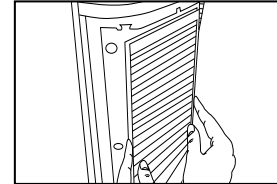

Fig. 3
3. The True HEPA filters will be resting inside the unit. Make sure that the filters are firmly seated inside of the unit. Fig. 3